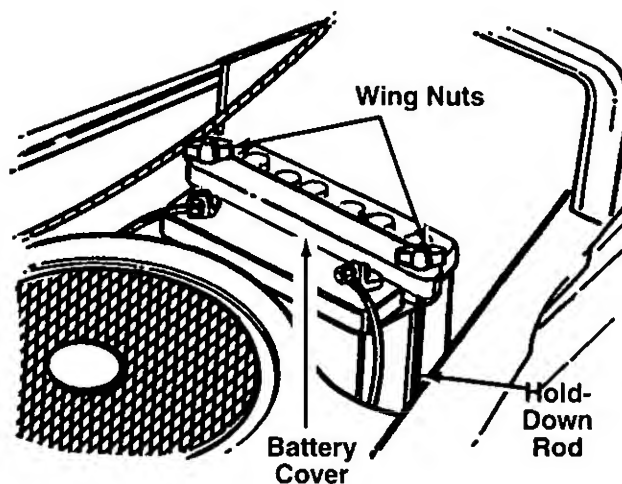

FIGURE 10.
4. Place the black plastic battery cover in position over the hold-down rods. Secure with wing nuts. See figure 10.